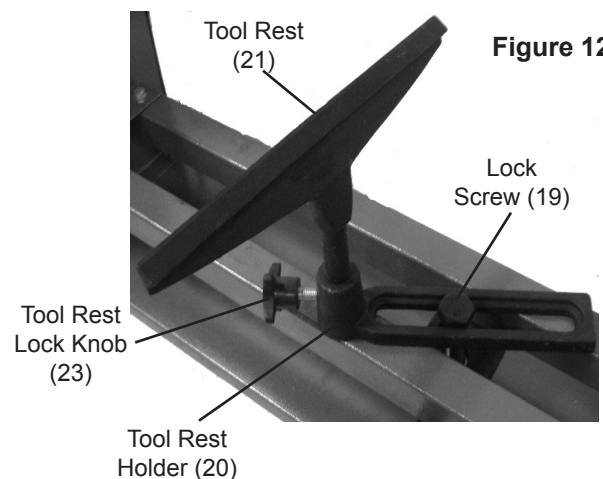

**Figure 11**
1. Use the Spanner to loosen the Lock Screw (19) under the Tail Stock (24). Then slide Tail Stock to the desired position. See Figure 11, below.